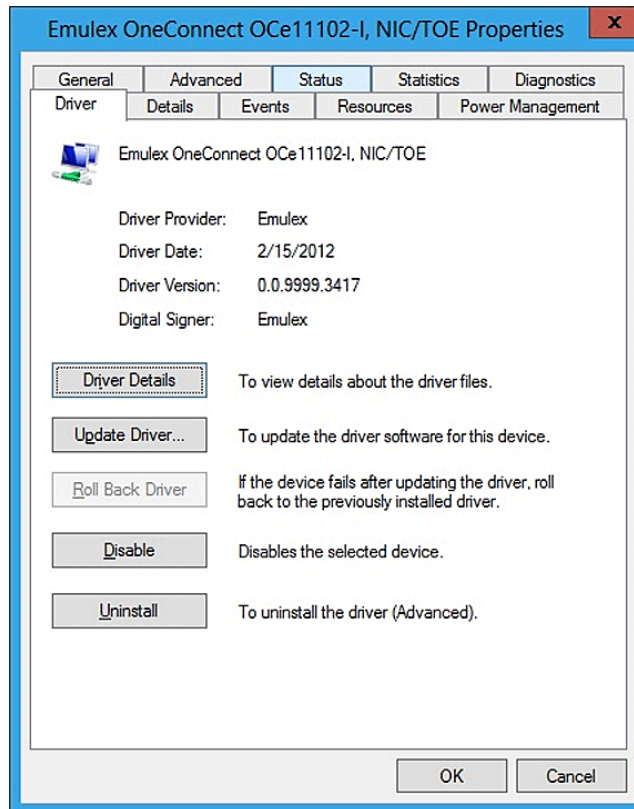

Figure 3-5 Emulex NIC Driver Properties Page
3. Open the **Network Adapters** item, find the Emulex device and right-click. Select **Properties** from the context-menu. The Properties dialog box opens. See Figure 3-5.
3. Open the **Network Adapters** item, click the Emulex device and right-click. Select **Properties** from the context-menu. The Properties dialog box opens showing the Driver page. See Figure 3-5 on page 79.